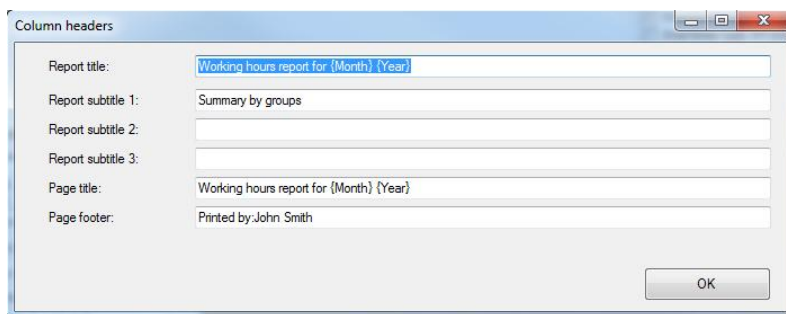

Figure 30. Changing report headers
9. Click the CONFIGURE REPORT HEADERS button. Dialog box similar to this shown in Figure 30 will display.